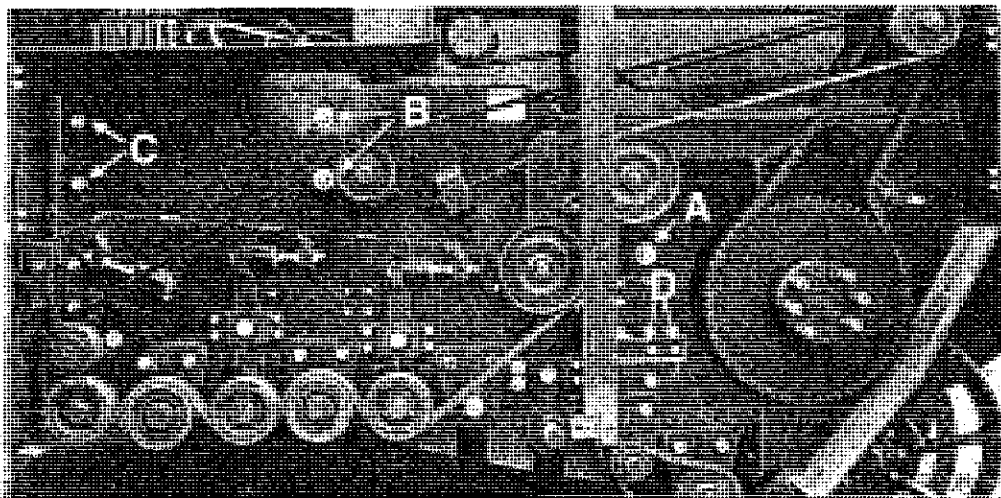

Figure 31. Fasteners That Must be Loosened to Adjust the Grab Roll Bed
The conveyor and grabroll bed consists of 9 rolls plus 2 diverter rolls at the rear to direct beets to the wheel elevator. With this design, the slope of the grabroll bed can be changed to increase or decrease the beet cleaning or to improve the flow of the beets. When lowering or raising the grabroll bed, you must first loosen the drive belts on each side. Refer to Figure 31 and perform the following on each side of the machine: loosen the front bolt (A), loosen the front U-bolt (B) and remove the rear U-bolt (C) that holds the grabroll panel on each side. Loosen the braces (refer to Figure 33) that hold the rear diverter roll supports on each side. Also loosen the center shield support (Figure 31-D) on the right hand side.